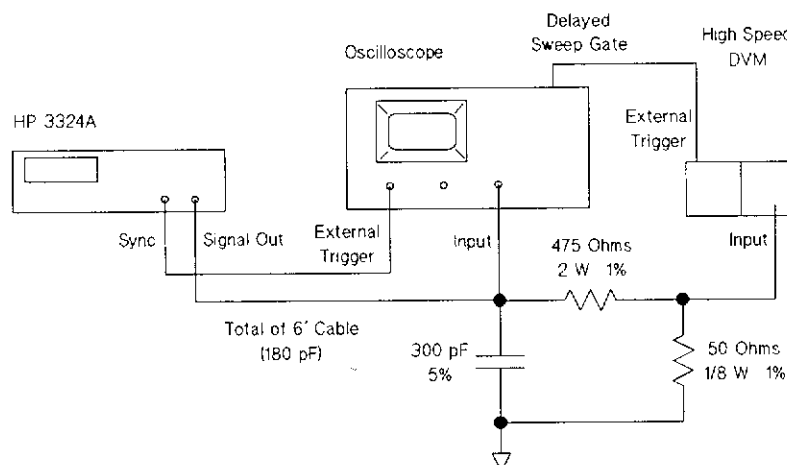

Figure C-6. Function Amplitude Accuracy Test Set-Up (High-Voltage Output)
4. **High-Voltage Function Test.** Connect the equipment as shown in Figure C-6.
- The voltage divider shown in Figure C-6 is built into a small metal box with 2 BNC connectors. Parts used are:
Connect the tap to the input of the high-speed voltmeter, as shown in Figure C-6.
1. Connect the HP 3324A output to an oscilloscope with a 500Ω , 300pF load (load attached at either end). The cable capacitance (30 pF/foot) must be included in the 300 pF. The HV divider (Figure C-6) may be used with 6 feet of cable.